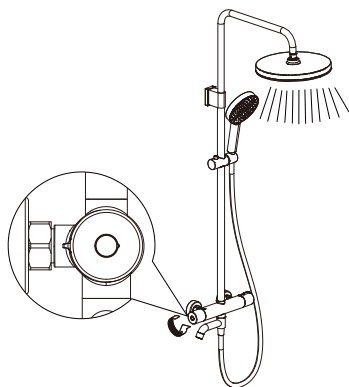

Figure 14C
- ③ Turn the water diversion handwheel forward (the bath water outlet is flush with the main body, and the shower head will discharge water, as shown in Figure 14C.